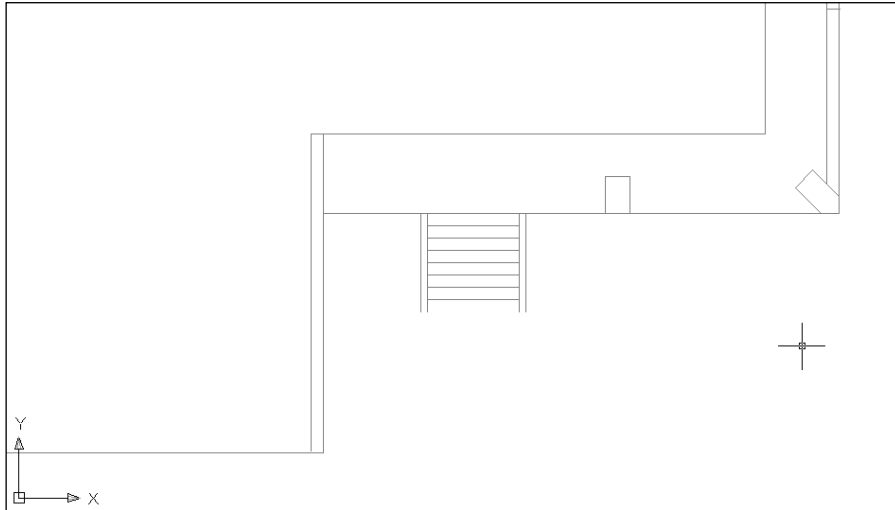

Figure 8-6: The new view of the drawing after using Zoom Dynamic.
12. You are back in Pan mode again. Move the Pan box to the bottom-right corner of the warehouse. Right-click and choose Enter to zoom in on this new view. Your display should look approximately like Figure 8-6.